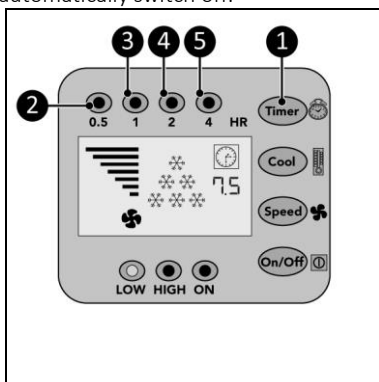

Figure 13
1. Press the Timer button (Figure 13, pos. 1) repeatedly to start the countdown timer of:
- 0.5 hour: the 0.5 hr indicator (Figure 13, pos. 2) will light up;
- 1 hour: the 1 hr indicator (Figure 13, pos. 3) will light up;
- 2 hours: the 2 hr indicator (Figure 13, pos. 4) will light up;
- 4 hours: the 4 hr indicator (Figure 13, pos. 5) will light up;
- 7.5 hours: the 0.5 hr indicator, the 1 hr indicator, the 2 hr indicator and the 4 hr indicator (Figure 13, pos. 2, 3, 4 and 5) will light up.